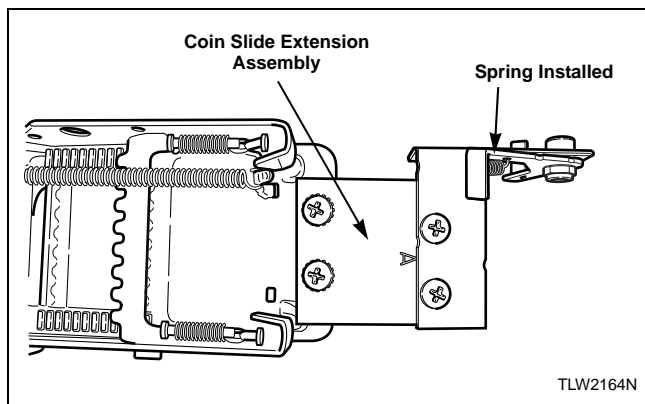

Figure 42
6. Install coin slide extension assembly onto top of coin slide using two remaining screws and lockwashers. Place lockwashers under head of screws, above bracket "A". Refer to *Figure 42*.